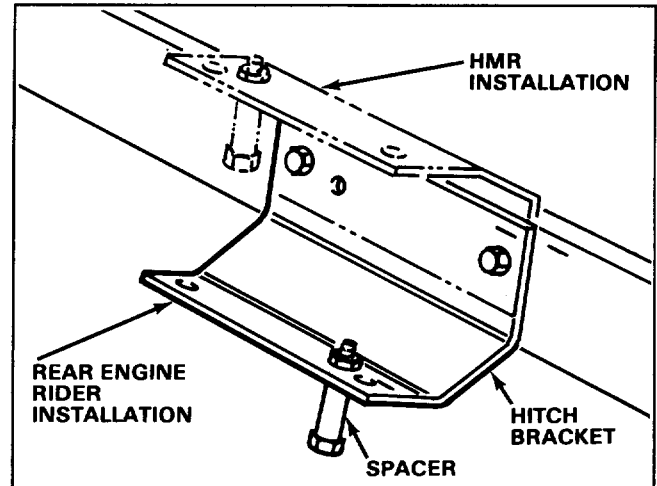

Figure 2
1. When mounting hitch bracket for installation on a rear engine rider, position hitch bracket in upward position (Fig. 2). Mount bracket in downward position on HMR 1200 installation. Make sure marks on hitch bracket and grass catcher frame are aligned, to assure proper mounting holes are used in each application.
2. Secure hitch bracket to grass catcher frame with (2) capscrews (7/8" lg.) and locknuts (Fig. 2).
3. Mount a spacer to hitch bracket with a capscrew (7/8" lg.) and locknut. Spacer to be positioned downward from bracket (Fig. 2).